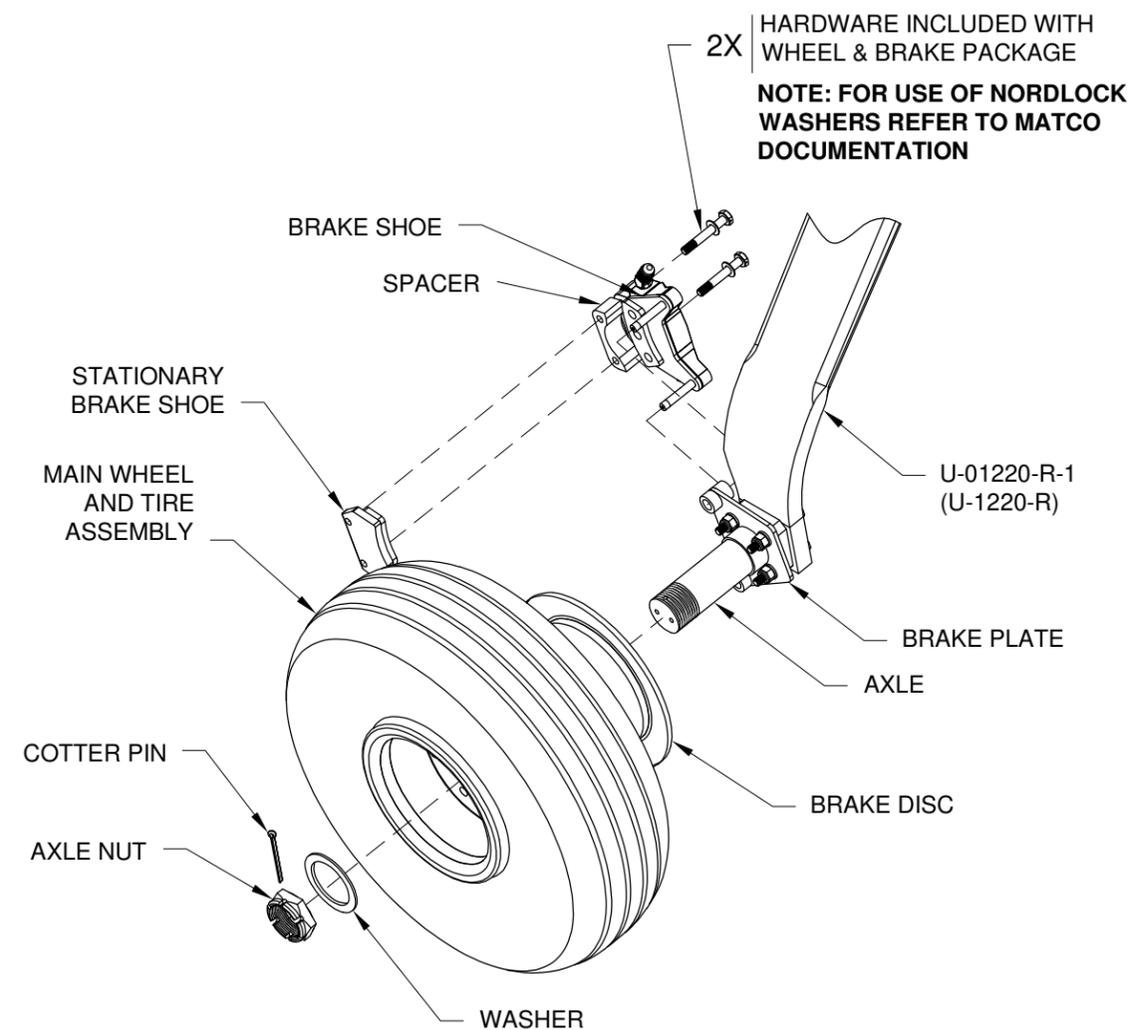

FIGURE 2: ATTACHING THE WHEELS AND BRAKES
Step 2: Slide the Main Gear Wheel Assembly and washer onto the axle and secure with the axle nut as shown in Figure 2. The axle nut should be tightened to the point that there is no play in the assembly and the rubber seal on the bearing doesn't spin with the wheel. See the instructions included with the wheel and brake package for further details on axle nut torque. Install the cotter pin as shown in Figure 2.
Step 3: Install left and right side Brake Assemblies as shown in Figure 2. Slide the studs of the Cylinder Assembly into the brake plate, place the stationary brake shoe behind the brake disc, then bolt the stationary brake shoe and Cylinder Assembly together. The bleeder valve should be on the bottom of the Brake Assembly when installed as shown on Page 35iS/U-06, Figure 2, Section A-A.